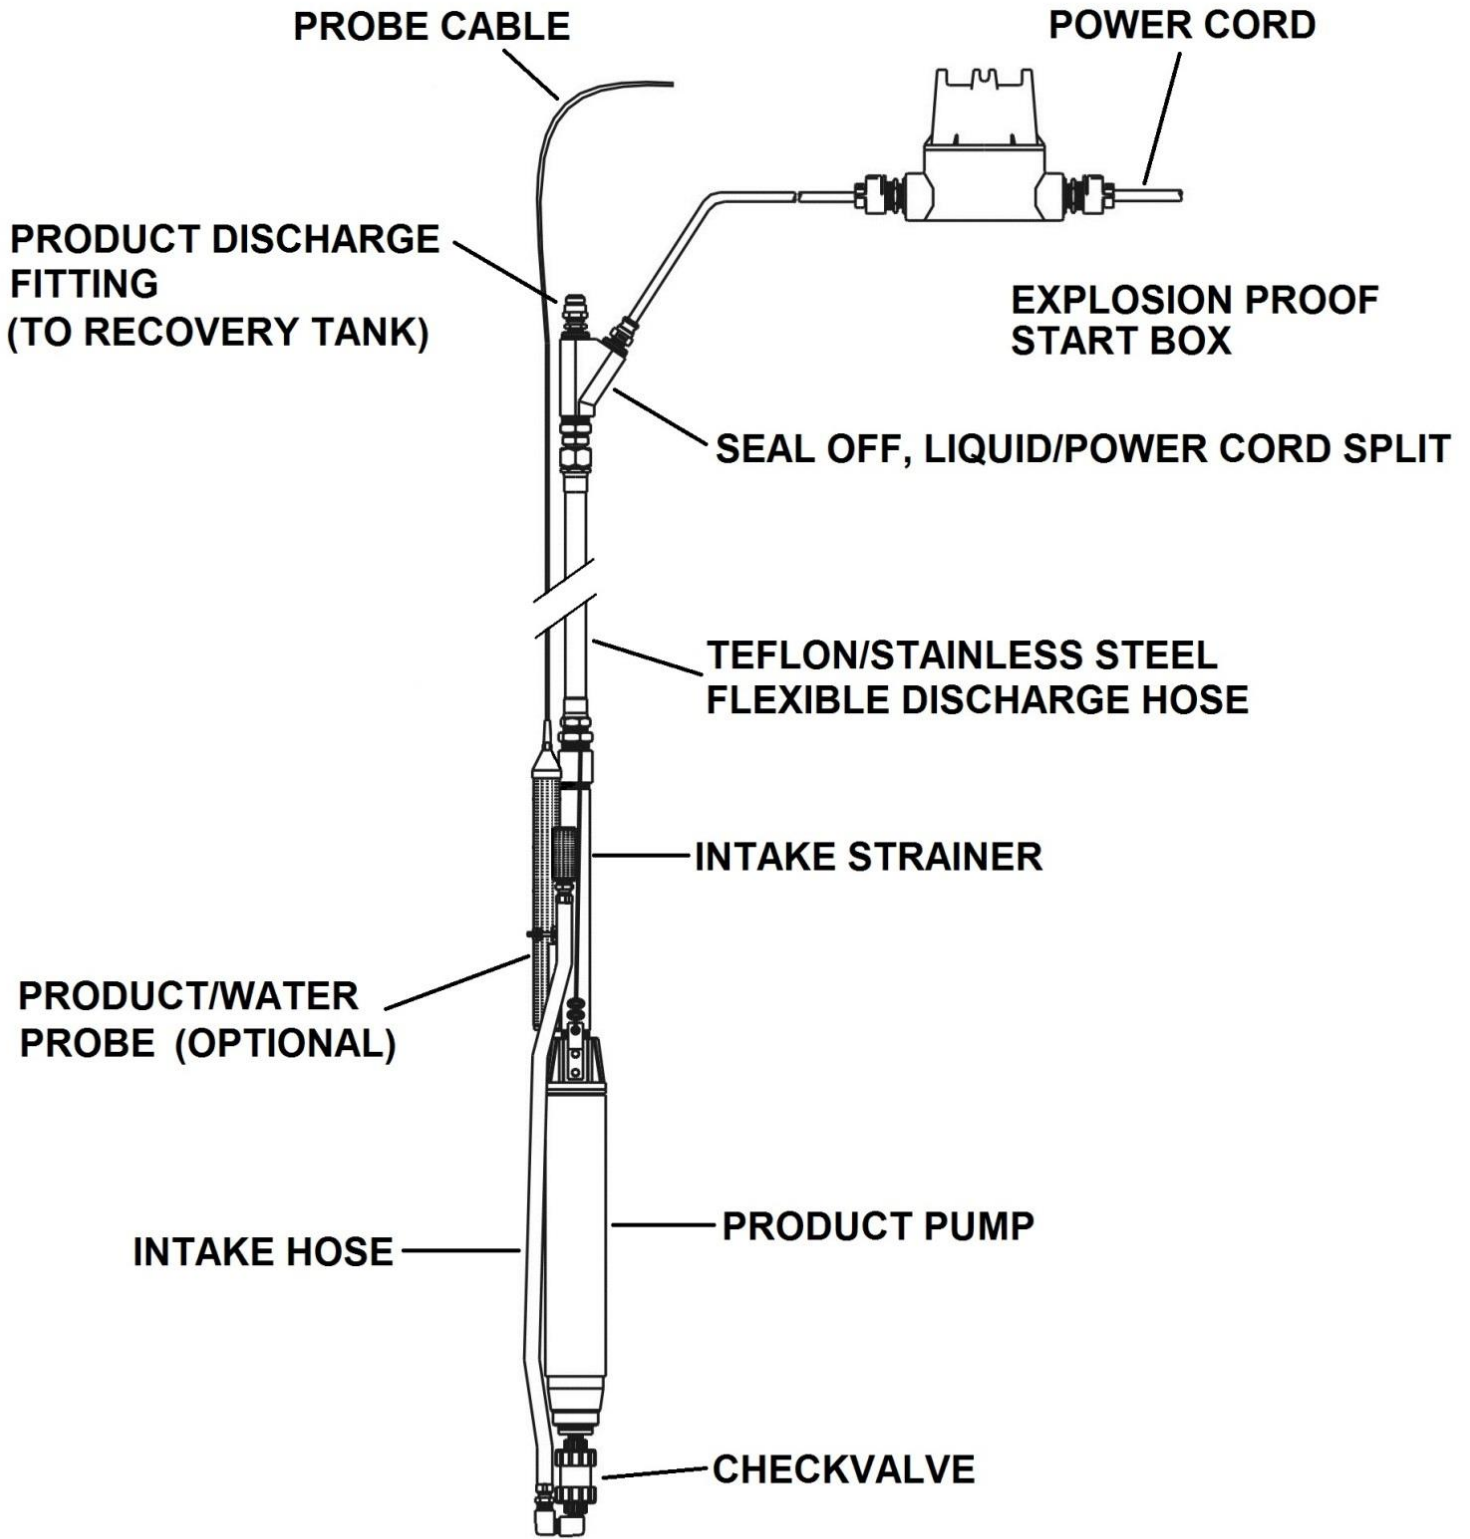

Figure 1-1: Standard HVPSCAV Assembly
The standard HVPSCAV system (Figure 1-1) consists of a down well pump assembly that includes a product pump, power cable with an explosion proof (XP) start box, and 15' (4.6 m) of FEP/Stainless Steel flexible discharge hose along with a product/water probe, and intake hose and strainer. Stainless steel and other corrosion resistant components allow efficient usage in a variety of subsurface conditions.
In preparation for installation, remove the HVPSCAV from its shipping crate. If you have ordered the optional product/water probe, it will already be attached to the pump assembly as shown in Figure 1-1. Confirm that the probe is securely mounted and positioned so that the top of the stop collar that is just below the Product Float is positioned right at the start of the intake screen (see Figure 1-6).